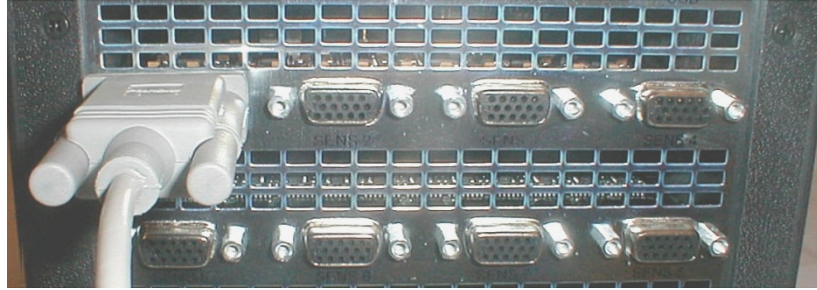

Figure 1-4 Sensor and Sensor Connection
5. For getting started, use only one sensor. Identify the sensor and insert it into any of the sensor receptacles as shown below. Firmly engage and lock the sensor connector into place in the same manner as the source connector in step 3. See Figure 1-4.